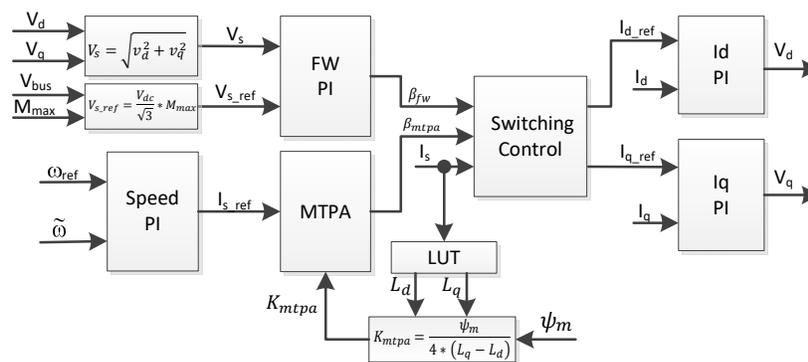
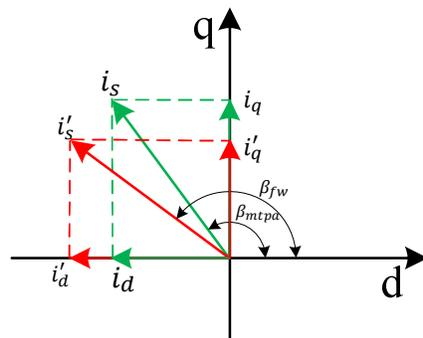

Figure 75 Block diagram of field-weakening and maximum torque per ampere control
Figure 77 Current phasor diagram of an IPMSM during FW and MTPA
Figure 75 shows the typical control structure used to implement field weakening; β_{fw} is the output of the field weakening (FW) PI controller and generates the reference i_d and i_q . Before the voltage magnitude reaches its limit, the input of the PI controller of FW is always positive and therefore the output is always saturated at 0.
There are two control modules in the InstaSPIN-FOC motor drive system as shown in **Figure 75**: one is MTPA control and the other one is field weakening control. These two modules generate a current angle respectively based on input parameters. The switching control module is used to decide which angle should be applied, and then calculate the reference i_d , and i_q as shown in **Figure 77**. The current angle β is chosen as follows.